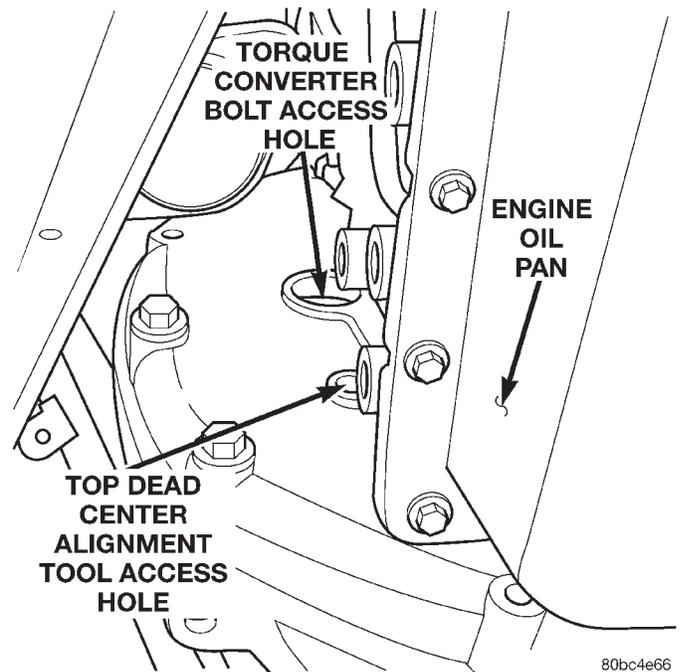

Fig. 21 Torque Converter Bolt Access Hole
(34) Working through the torque converter bolt access hole (Fig. 21), remove the (4) torque converter to driveplate retaining bolts. Rotate the engine in a clockwise direction to access the converter bolts.
(35) Place a jack under the transmission.